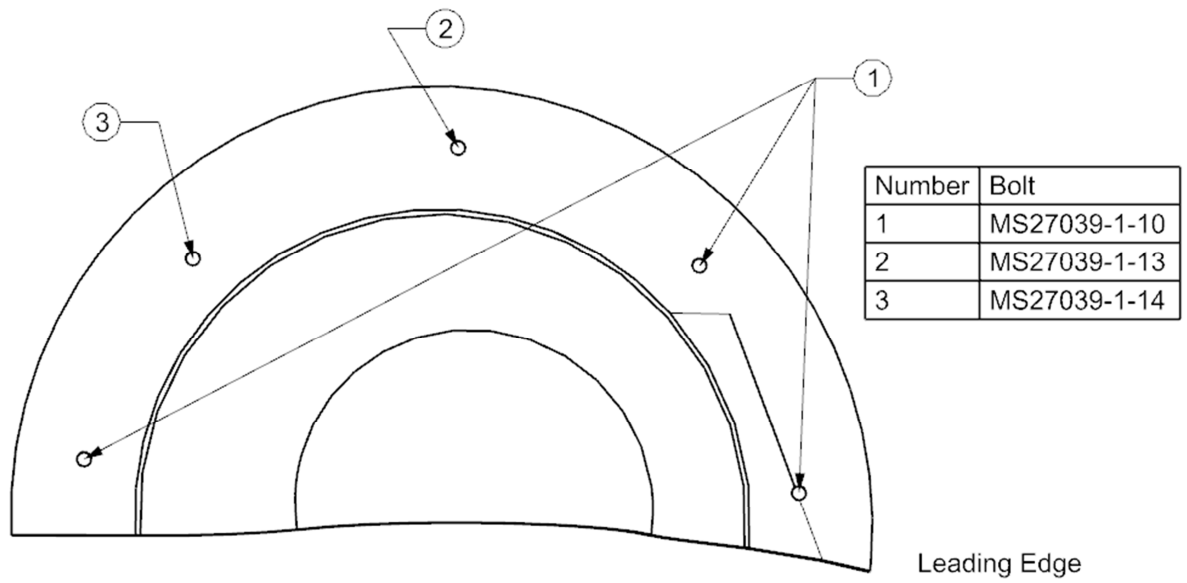
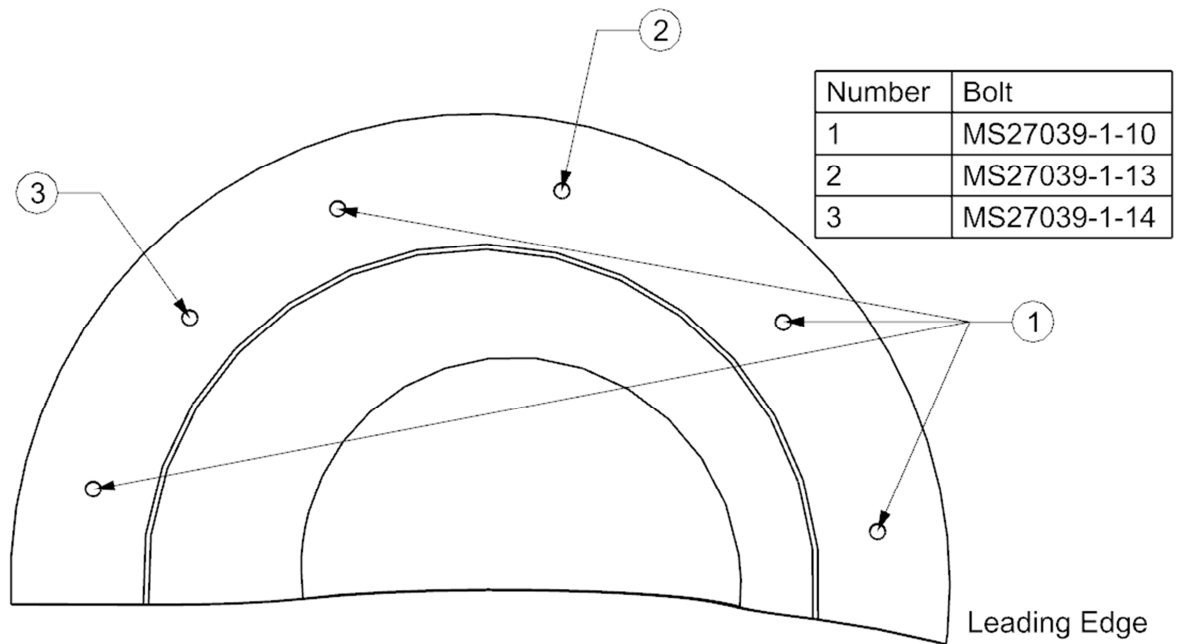
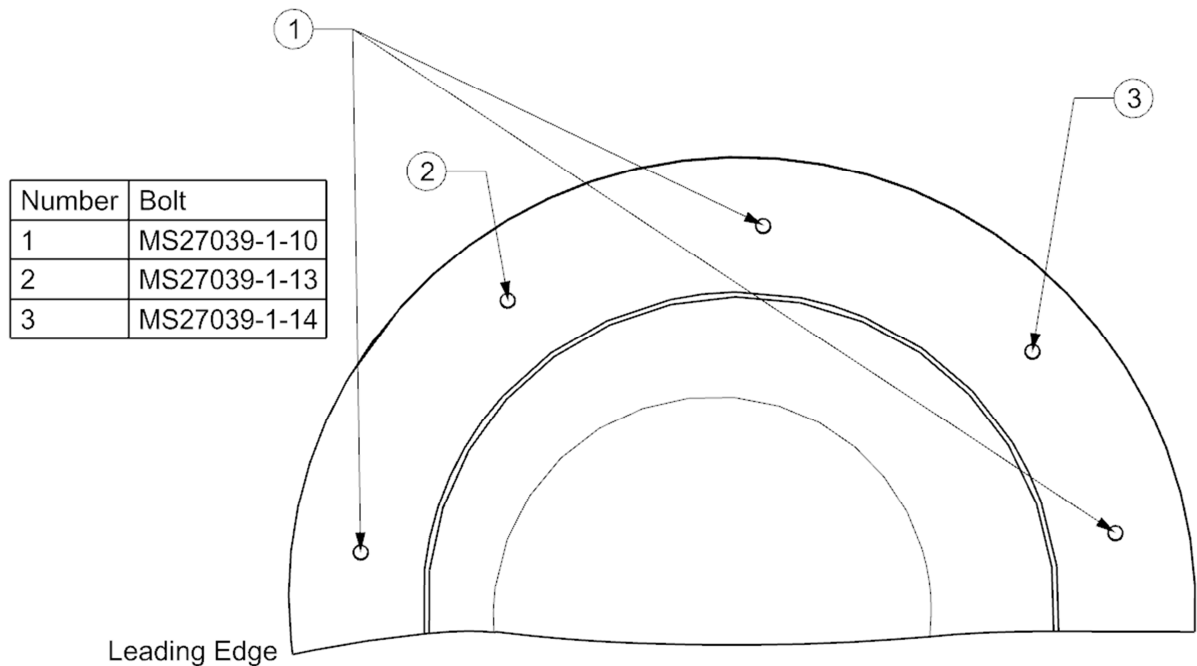

Figure 3-5: Outboard Wing Pylon Forward Lug Cover Fastener Placement
Figure 3-6: Center Wing Pylon Forward Lug Cover Fastener Placement
Figure 3-7: Inboard Wing Pylon Forward Lug Cover Fastener Placement
3. Attach the forward wing pylon lug covers (UWB-ICE-06-104, UWB-ICE-07-104, UWB-ICE-08-104, UWB-ICE-06-105, UWB-ICE-07-105, and UWB-ICE-08-105) to the wing array pylons using MS27039-1-14, MS27039-1-13, and MS27039-1-10 fasteners as per Figure 3-5, Figure 3-6, and Figure 3-7.